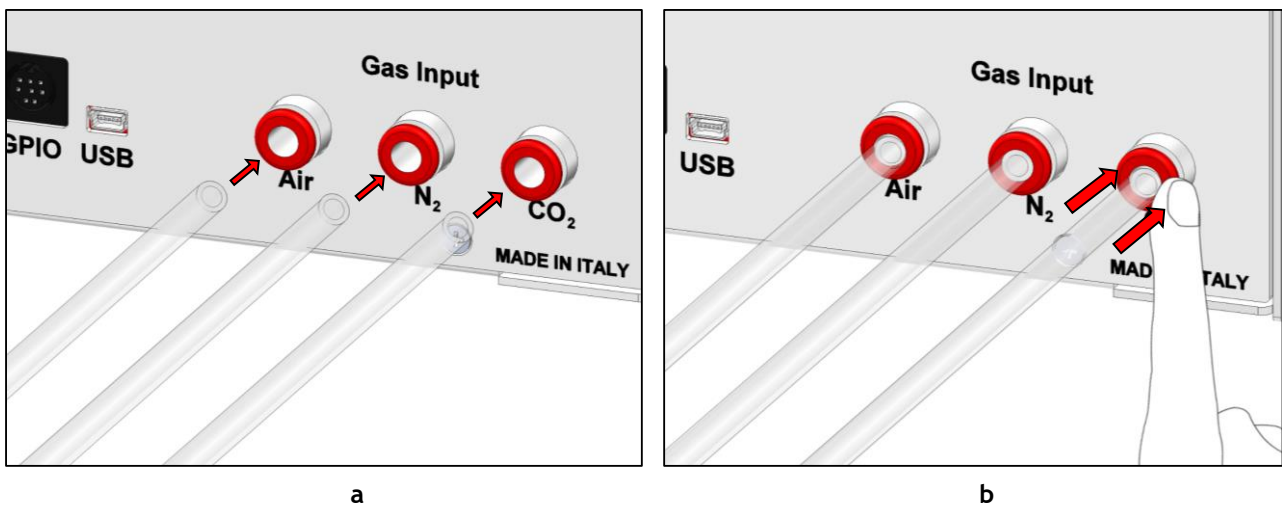

Figure 10. How to connect (a) and disconnect (b) tubings from push to fit connectors.
3. Connect Air/ N₂ /CO₂ supply to the corresponding push to fit connectors on the rear panel of CO₂-O₂-UNIT-BL [0-10; 1-18] by using TUBE-A (see Figure 10 a). a). Set Air/N₂/CO₂ pressure at 1.4 barg (20.3 psig).
To remove tubing from the connectors, push the red rubber ring while pulling the tubing (see Figure 10 b).